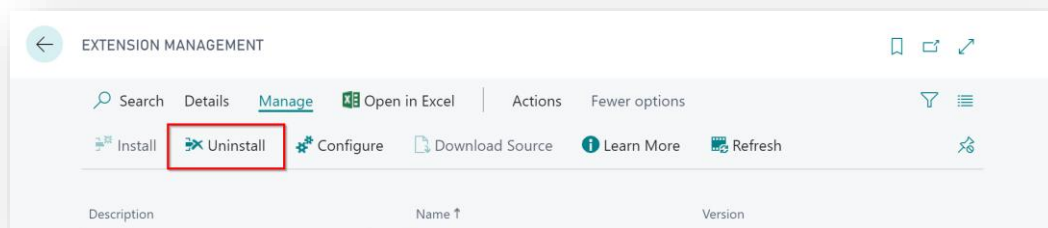

Figure 5-1
2. Select the **SD Interface EDI App** and choose the **Uninstall** action (*Figure 5-1*).